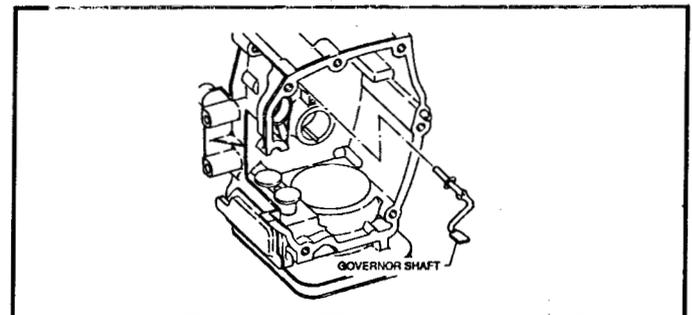

Figure 75
3. To remove the shaft, pry the pushnut off the outside of the shaft and withdraw the shaft. Take care to remove burrs on the shaft prior to removal. The burrs will damage the bore in the block of the engine. See Figure 75.